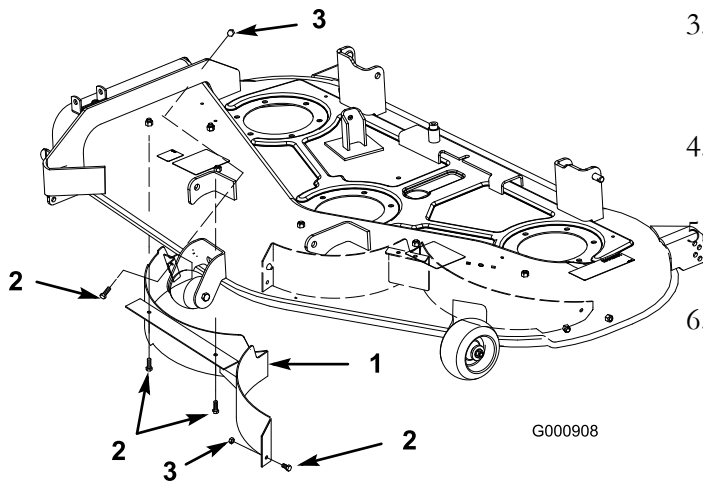

Figure 20
- Remove the lock nuts from the top and center of the right side baffle (Figure 20).
- Lower the baffle and slide it out of discharge opening to remove it (Figure 20).
- Install the bolts (5/16 x 5/8 inch) and locknuts (5/16 inch) removed in Step 3 in the open holes of the mower for safety (Figure 20).
3. Remove the bolts and nuts in the deck holes needed to secure the baffle to the deck (Figure 20).
4. Install the baffle by sliding it into the discharge opening (Figure 20).
Secure the baffle with the nuts and bolts (Figure 20) removed in Step 3.